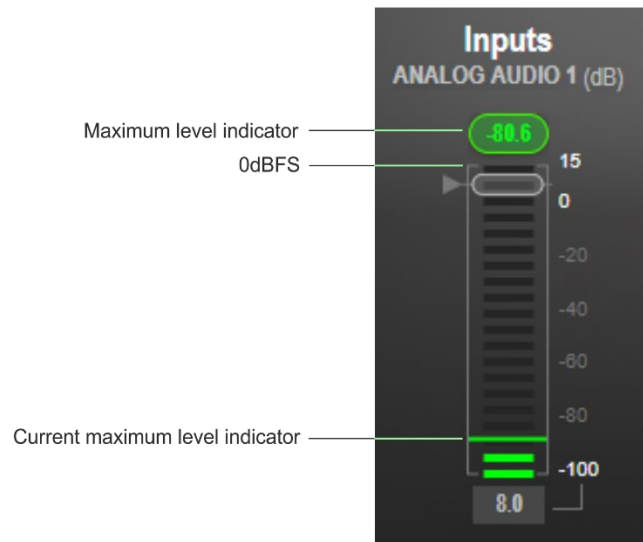

Figure 21: Level Measurement Indicators
**Note** - In figures 21 and 22 below, meters (left side) display on a scale of -100 dBFS to 0 dBFS maximum (above this is clipping or audio saturation). On the right side, the gain level points to amplification for positive values and attenuation for negative values.